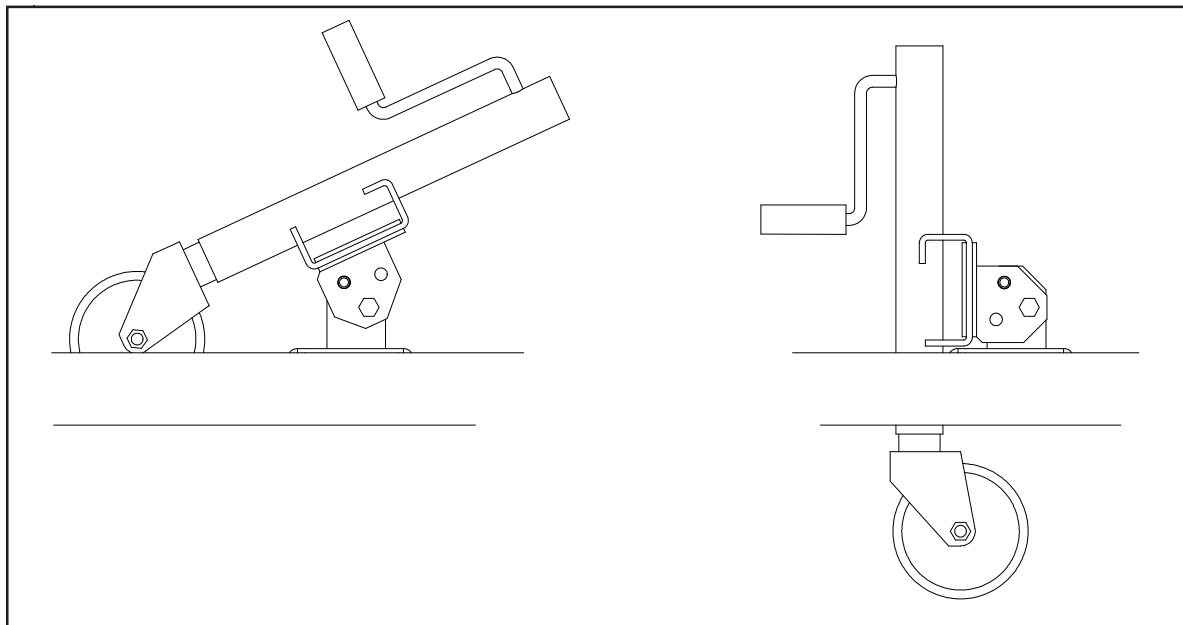

Figure 2B - Using the Dollywheel/Jack
4. Refer to Figure 2B. Adjust the overall height of the spreader/hitch with the dollywheel/jack so the height of the spreader hitch matches the height of the tractor drawbar or vehicle hitch point (as applicable).